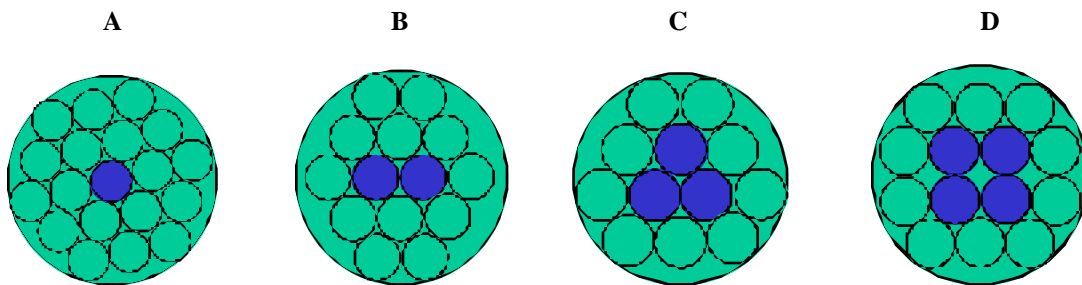

Fig. 1
Outerducts enclosing a given number of innerducts based on volume. --four of many possible compact arrangements of circles within a circle are shown at A, B, C, and D in Fig. 1.
1. **Arrangements of Center of Core Innerducts:** the four most common arrangements of center or core innerducts are shown cross-sectioned in Fig 1. It may seem that the “A” pattern would require the smallest enclosing outerduct for a given number of enclosed innerducts, but this is not always the case since the most compact arrangement will, in part, depend on the number of innerducts to be enclosed.
2. **Diameter of Enclosing Outerduct:** Successive, complete layers of innerducts may be placed around each of the central cores, Fig. 1, of 1, 2, 3, or 4 innerducts as the case may be. The number of innerducts contained in arrangements of complete layers around a central core of innerducts, as well as the diameter of the enclosing outerducts, may be obtained using the data in Table 1.
Thus, **for example**, the “A” pattern in Fig. 1 shows by actual count, a total of 19 innerducts arranged in two complete “layers” around a central core consisting of one innerduct. This agrees with the data shown in the left half of table 1 for  $n = 2$